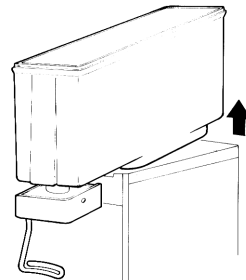

figure 2
- 4 Remove the empty bowl by lifting first its rear side (opposite to faucet side) up and off bowl gasket (see figure 2).